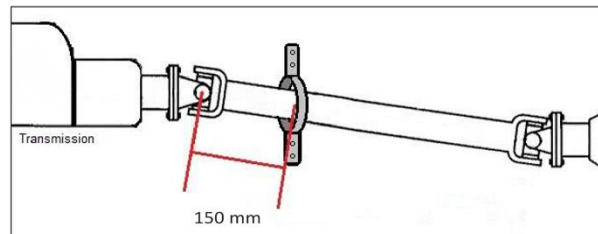

Fig. 16
- B. The driveshaft loop may be made of minimum 6.0mm x 50mm wide steel strap or 22.0mm x 1.6mm steel tubing and must be securely mounted in case of universal joint failure (Figure 16)